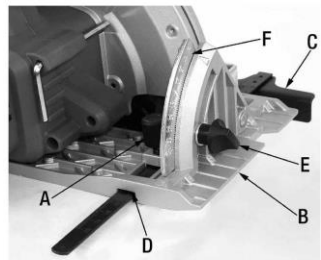

Figure 7
Unscrew the edge guide lock knob (A) Fig.7 on the base plate (B). Slide the edge guide (C) in the slots (D). Set a desired width and retighten the edge guide lock knob (A).
Adjust the bevel angle by loosening the bevel adjustment knob (E) Fig.7, use the bevel scale (F) as a guide and tilt the base (B) to the desired bevel angle. Retighten bevel adjustment knob.